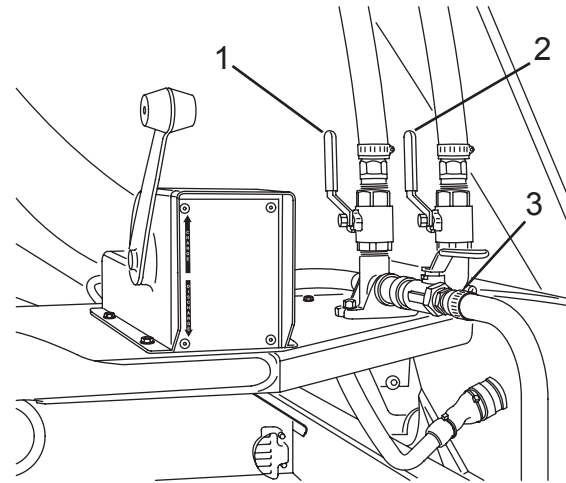

Figure 93
- Open wash-out hose valve (Figure 93, Item 3) at the rear of the Mixer and allow water to drain.
- Open wash-out valve (Figure 93, Item 1) and add-water valve (Figure 93, Item 2) and allow water to drain through wash-out hose.